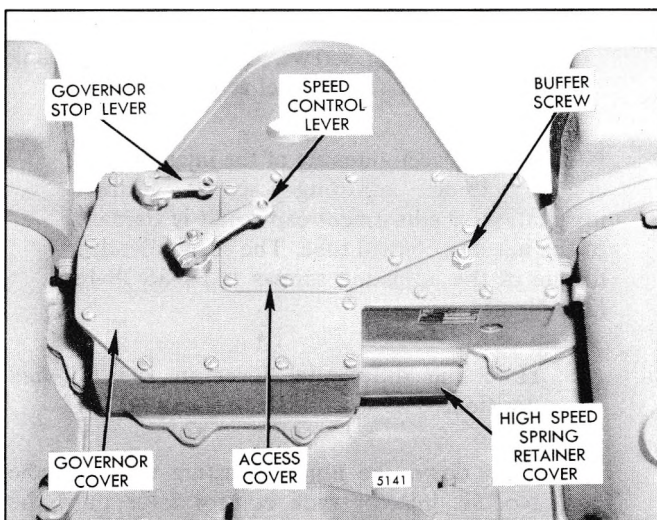

Fig. 1 - Limiting Speed Governor Mounting
After adjusting the exhaust valves and timing the fuel injectors, adjust the governor and position the injector rack control levers (Fig. 1).
1. Back out the buffer screw until it extends approximately 5/8" from the locknut (Fig. 1).